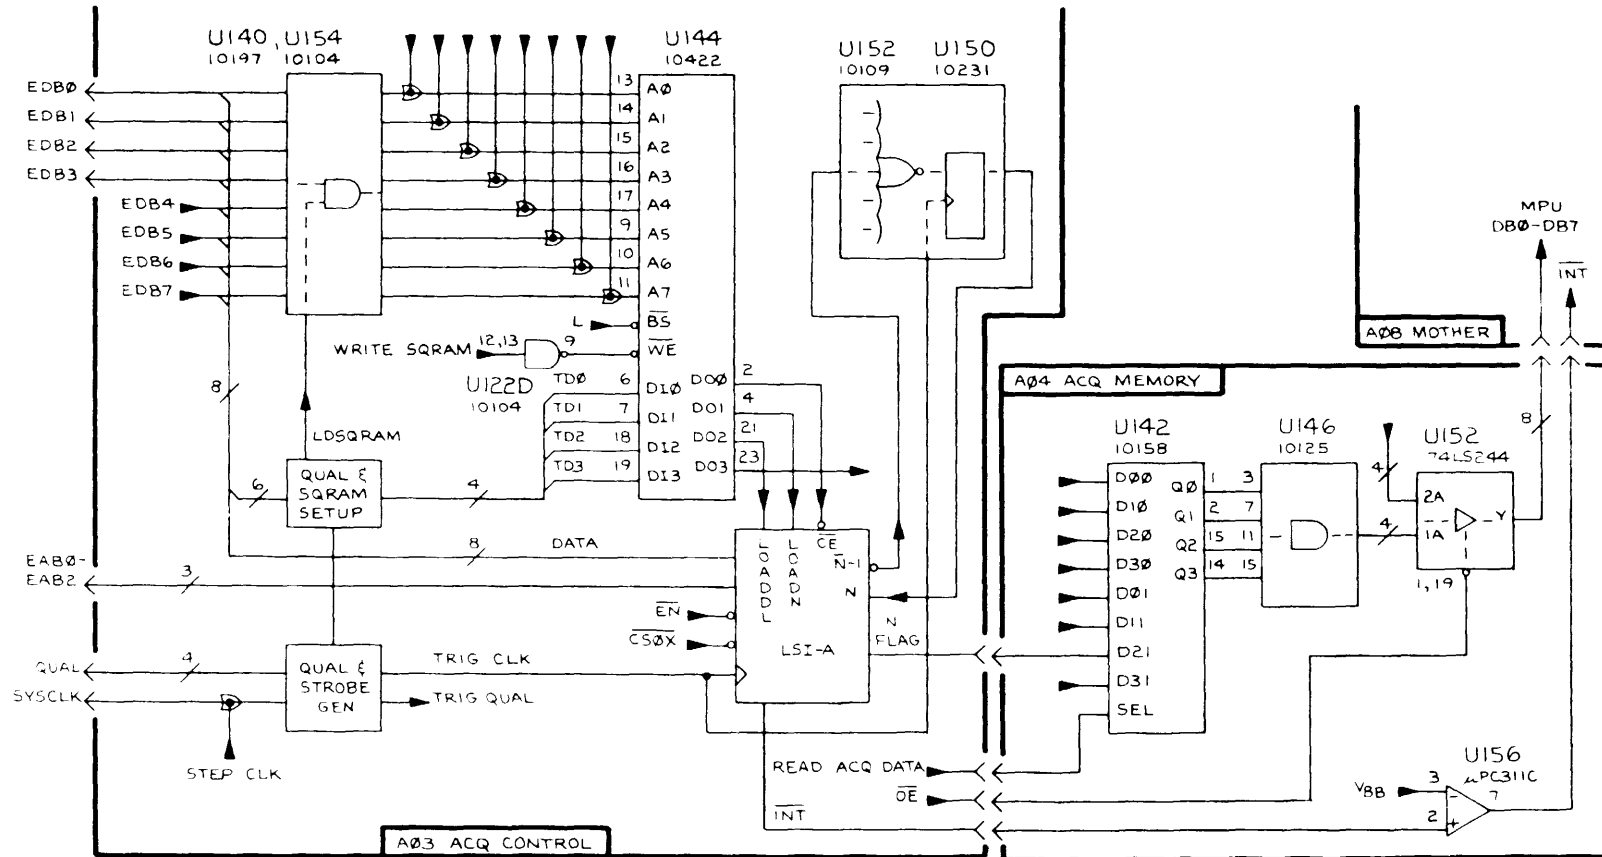

Figure 7-10. 318 N and DELAY counter test.
**Description:** Refer to Figure 7-10. The Event Delay Counter U158 (event/delay counter,  $\mu$ PB3Z198R) on the A03 ACQ CONTROL board is controlled by three signals, E, LOAD N, and LOAD DL from the SGRAM U144 (256 word X 4 bit RAM, HM10422) on the A03 board. The counter generates N-1 as a carry when it reaches full count. This Event/Delay Counter has two registers, the one which holds the N value is called the N-register and the one which holds the DELAY value is called the DL register.